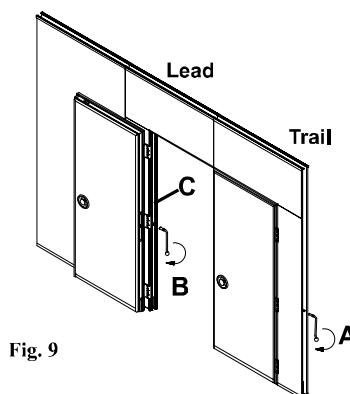

Fig. 9
L-Shaped Pass Door (batwing style-2 doors). (Fig. 9)
The pass door has a retractable bottom seal. To extend the door seal, locate the built-in handle in the door frame (C) shown in Fig. 9. Release the door seal by lifting on the bottom of the handle and then pulling it towards you. Next, pull the handle down towards the floor to the desired location. Pivot the handle back into the door jamb to lock the seal into position. Push the bottom of the handle back into the jamb. Be certain to return the handle to its correct stored position or it may interfere with, or damage, the door frame.